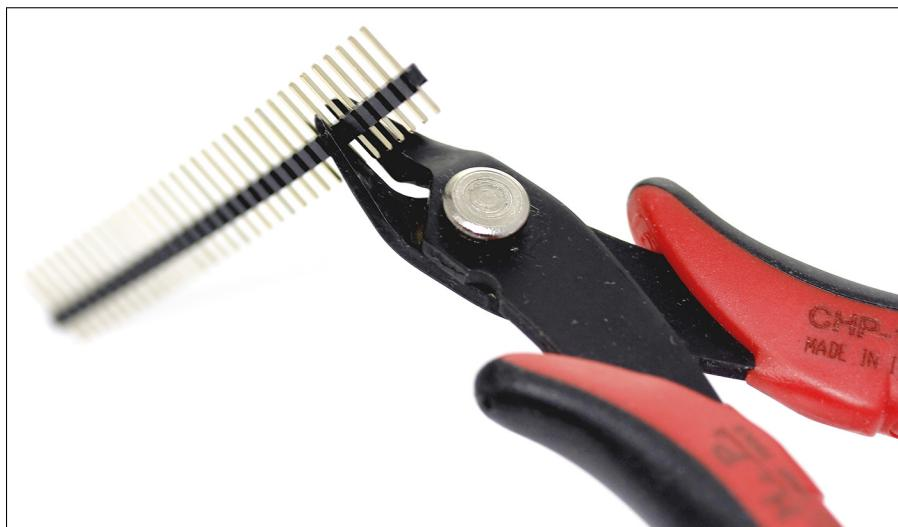

Figure 15-2:
- 1. Using a pair of wire cutters, cut the length of header pins so that you have two lengths of 1 x 6 (see Figure 15-2).**